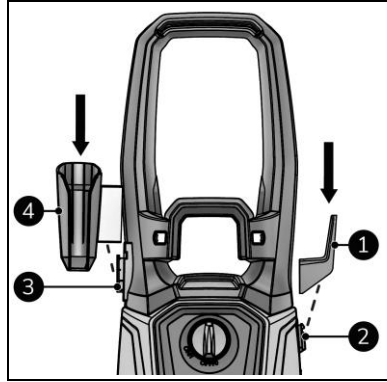

Figure 9
1. Slide the power cable bracket (Figure 9, pos. 1) onto the main body (Figure 9, pos. 2).
3. Slide the jet gun bracket (Figure 9, pos. 4) onto the handle (Figure 9, pos. 3).